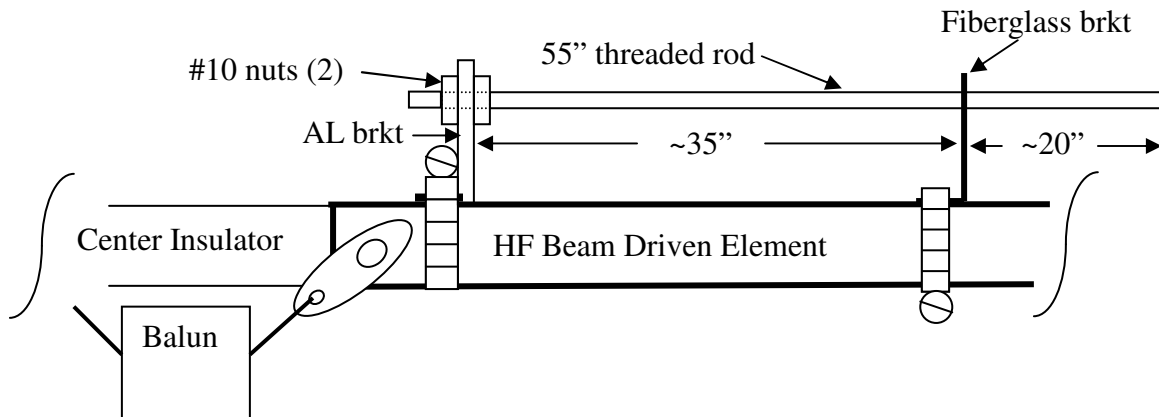

Figure 2: Typical 6 meter stub assembly and mounting on HF Beam Driven Element
- 4) Open up two hose clamps and install them over the HF beam's driven element as close to the inside ends of the driven element as possible. Clamp the two aluminum stub channel brackets (one on each radiator) as shown in Figure 2.
- 5) Open up the remaining two hose clamps (one on each radiator), clamp the fiberglass insulators so as to support the 55" threaded rods. Position the insulators as shown in Figure 2.
- 6) Mount the two stubs by threading a 10-32 x 3/8" nut 1/2" near the end of the threads. Add a second nut and lockwasher to sandwich the bracket between the two nuts, leaving no more than 1/4" of threaded rod exposed beyond the aluminum bracket. See Figure 2.